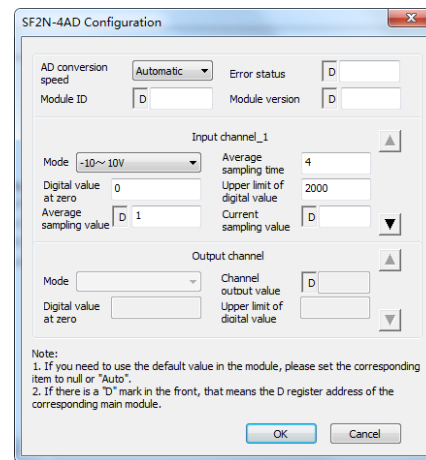

Figure 4-2 CH1 setting interface
SF2N-4AD exchanges data with the basic module through Buffer Memory (BFM). After SF2N-4AD is set through the host software, the basic module will write data into SF2N-4AD BFM to set the state of SF2N-4AD, and display the data from SF2N-4AD on the host software interface. See figures 4-2 ~ 4-6.
8. BFM#4094: module software version, displayed automatically as **Module Version** in SF2N-4AD Configuration dialogue box of the host software, as shown in Figure 4-2.